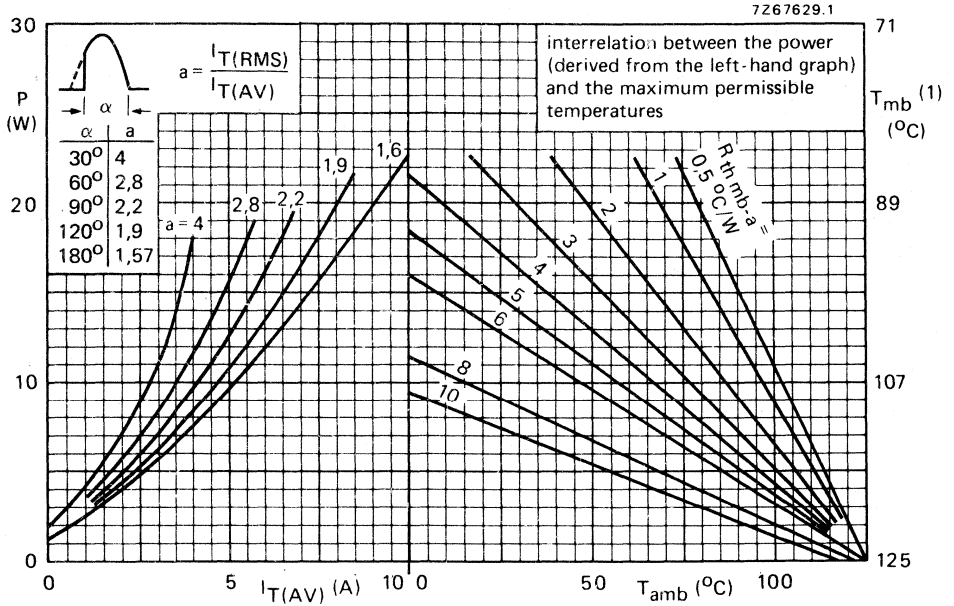

Fig. 3 (1) T_{mb} -scale is for comparison purposes only and is correct only for $R_{th\ mb-a} \leq 6$ °C/W.
* To ensure thermal stability: $R_{th j-a} < 4$ °C/W (d.c. blocking) or < 8 °C/W (a.c.). For smaller heat-sinks $T_{j max}$ should be derated. For a.c. see Fig. 3.